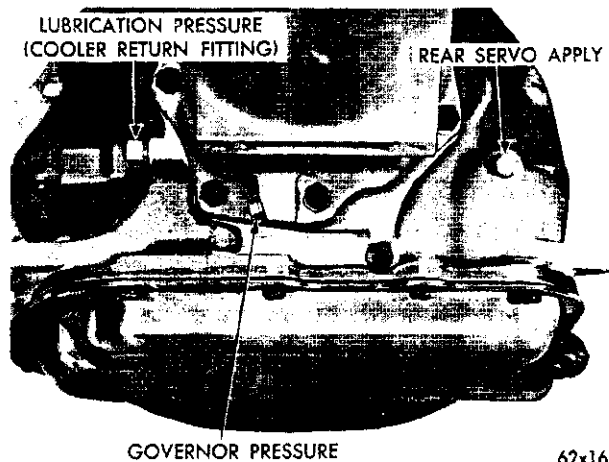

Fig. 27—Pressure Test Locations (Rear End of Case)
(1) Install a "tee" fitting between the cooler return line fitting and fitting hole in transmission case at rear of left side of transmission (Fig. 27). Con-
(1) Connect a 0-300 psi pressure gauge, Tool C-3293 to apply pressure take-off point at rear servo (Fig. 27).
(2) With the transmission control in R (reverse) position and the engine speed set at 1600 rpm, the reverse servo apply pressure should be 230-280 psi.
(1) Connect a 0-100 psi pressure gauge, Tool C-3292 to the governor pressure take-off point, located at lower left side of extension near the mounting flange (Fig. 27).
(2) The governor pressures should fall within the limits given in the following chart: